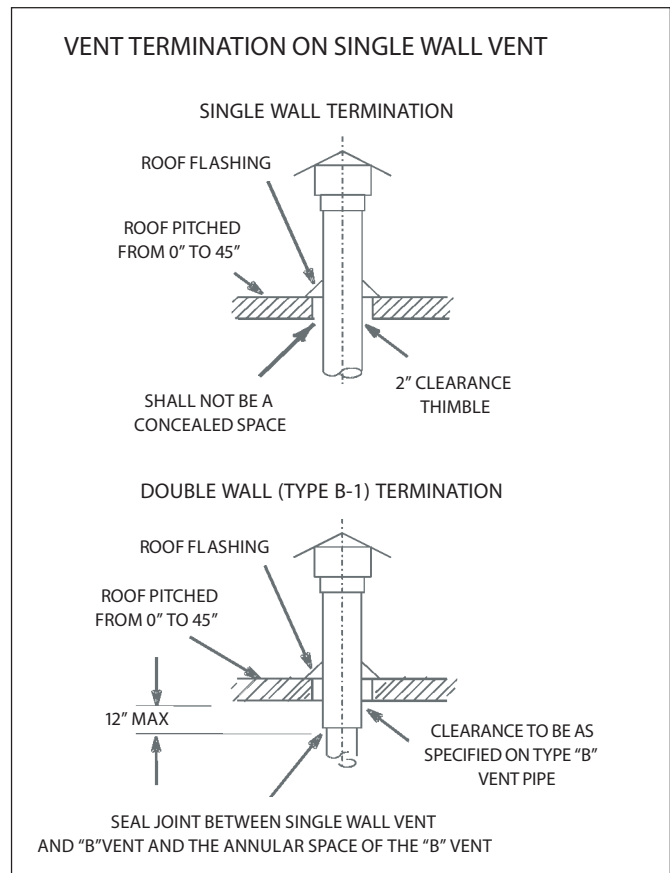
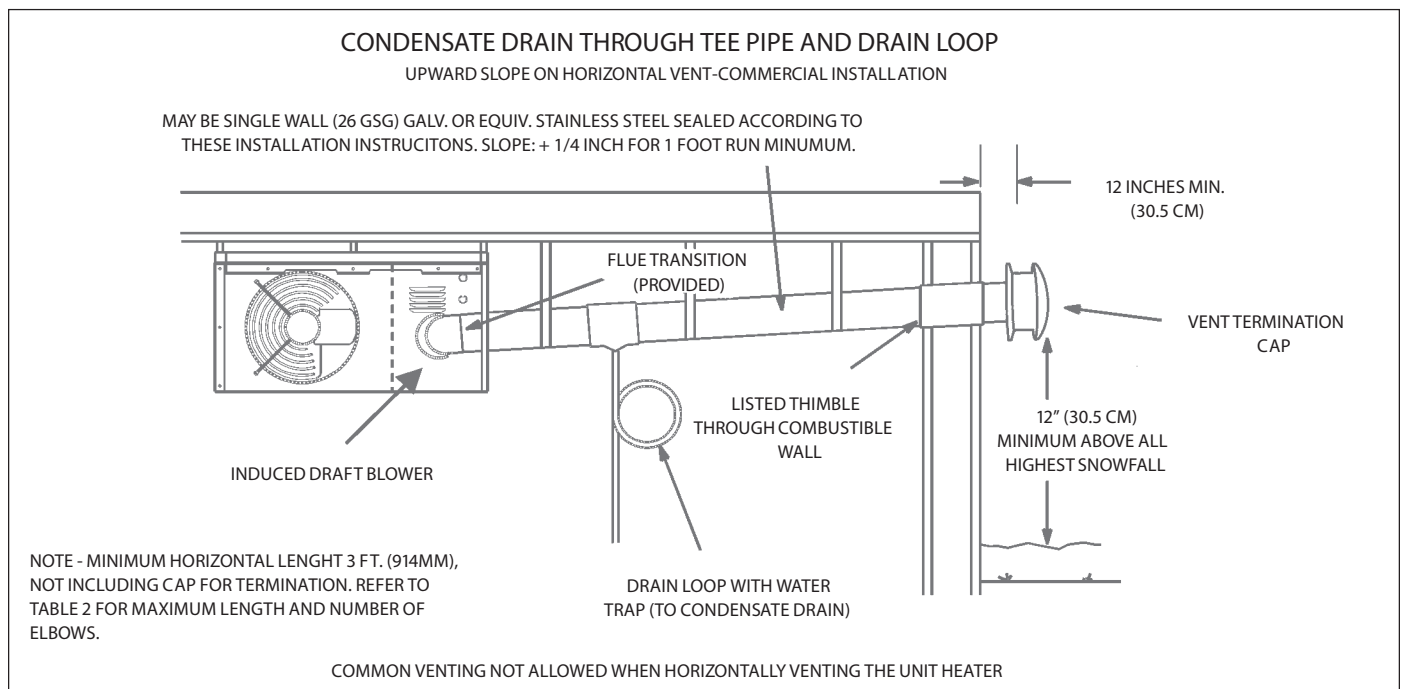

FIGURE 2
FIGURE 3
- MHU/HSU unit heaters are to be used with NFPA- or ANSI-approved chimneys, U.L. listed type B-1 gas vents, single wall metal pipe, or listed chimney lining system for gas venting where applicable, as well as the modifications and limitations listed in figure 2. Seal single wall vent material according to the section A - General Recommendations and Requirements.
8. When termination is routed through an exterior combustible wall the vent must be supported using a listed clearance thimble. Where local authorities permit, a single section of type B-1 vent pipe may be used as an alternative to the thimble. When using a type B-1 vent termination use the clearances specified by the vent manufacturer. Seal the connection between the single wall and double wall pipes and the annular space of the double wall pipe as shown in figure 2. Inside edge of vent termination tee must be at least 12 inches from outside wall as shown in figure 3 .
1. Horizontal commercial installations are for buildings which are not attached to living spaces. The vent may be single wall vent material installed according to the sections Venting A - General Recommendations and Requirements and C - Horizontal Venting General and D - Horizontal Venting - Commercial. Refer to figure 3.